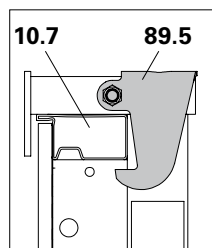
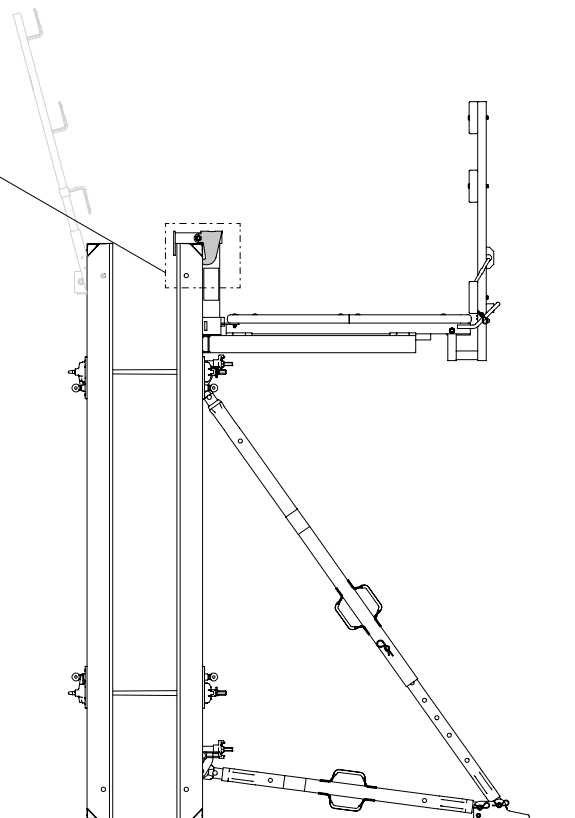

Fig. A7.23a
Fig. A7.23
- The retaining claw (89.5) grips the frame profile (10.7) and secures. (Fig. A7.23 + Fig. A7.23a)
Does the hook of the retaining claw grip the frame profile (10.7)? (Fig. A7.23a)